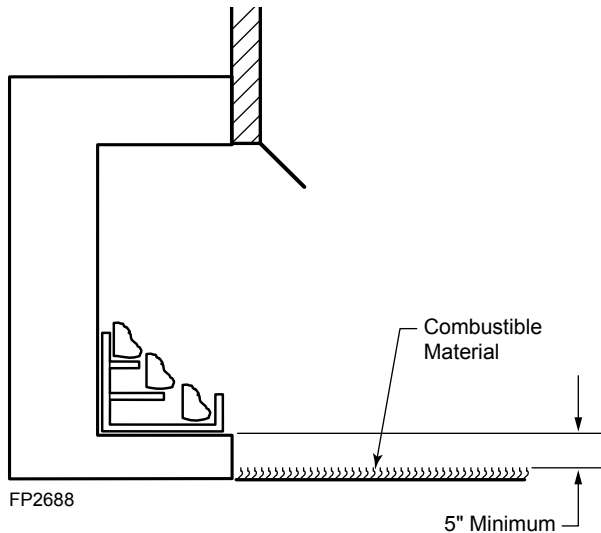

Figure 6.4 Minimum Clearance Above Combustible Flooring
5. Floor clearance: This inner chamber firebox floor must be installed at least 5" above any combustible flooring material, such as carpeting or asphalt tile, which is closer than 14" to the base of the firebox. See Figure 6.4.